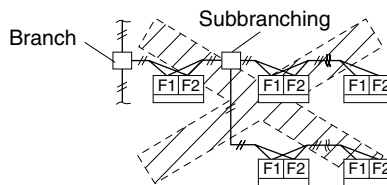

Fig. 15
4. Up to 16 branches are possible for unit-to unit cabling. No branch is allowed after first branch. **(Refer to Fig. 15)**